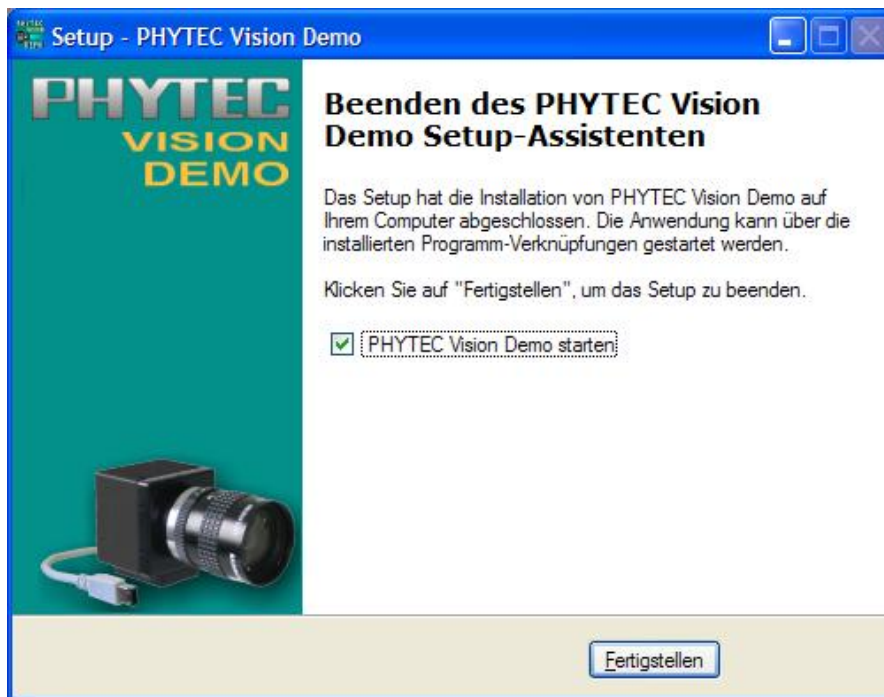

Figure 19: Installation completed, Step 4
- After successfully completing the installation, finish the procedure with “Finish” (Figure 19).